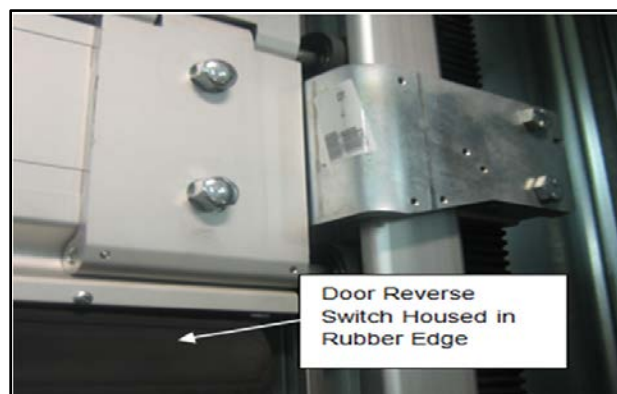

Figure 14
3. When the door is a few feet from the fully closed position, hit the rubber reversing edge that runs along the bottom edge of the door. Stand outside the photo eyes to avoid activating the photo eye circuit. (See Figure 14.)